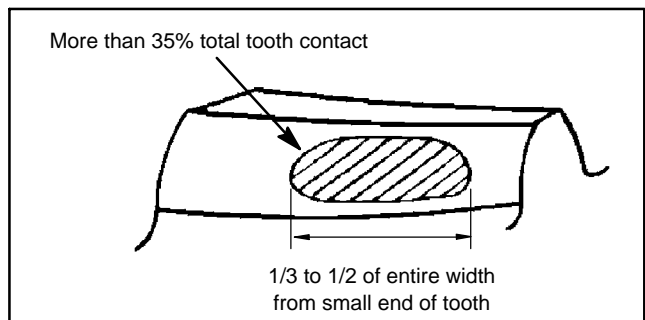

Figure 42
9. Ideal tooth contact should cover more than 35% of each tooth surface. The contact area should be in the center of each tooth and extend 1/3 to 1/2 way across each tooth from the toe (small) end (Fig. 42).